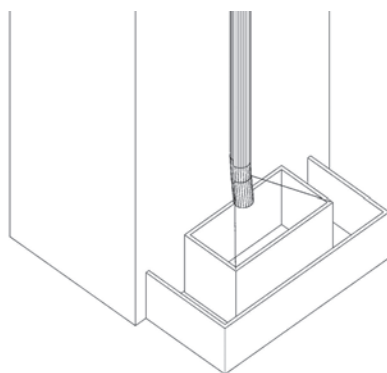

Fig. 72 Barricaded container.
3. Barricade the container area in order to protect workers and the public from any material that may ricochet out of the container. See Fig. 72